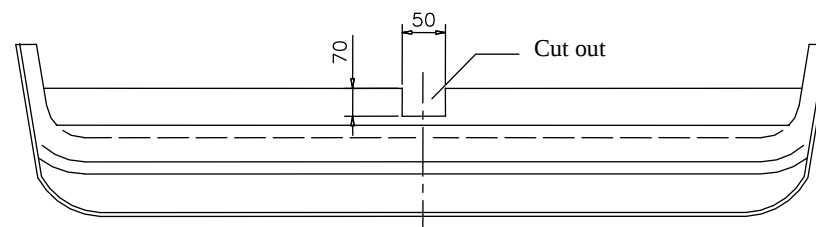

Fig. 2
3. On the left and right side put to chassis members brackets (pos. 4 and 5) in this way so elongated holes tally with plastic pin protruding from floor and next through holes (pos. A, B, C) drill holes $\varnothing 11\text{mm}$.
4. Bracket (pos. 5) screw through hole (pos. C) using washers (pos. 10) and bolts M10x30mm (pos.9).
5. Put main bar of towbar (pos. 1) to mounted brackets (pos. 4 and 5), through holes (pos. A and B), washers and plates (pos. 6) screw with chassis member using bolts M10x50mm (pos. 8) from towbar accessories.
6. Through holes (pos. D) drill holes $\varnothing 11\text{mm}$ and next screw with bolts M10x30mm – pos. 9 (use washers $\varnothing 35 \times \varnothing 12 \times 3\text{mm}$ – pos. 10).
7. Fix tow-ball (pos. 2) and socket plate (pos. 3) using bolts M12x75mm (pos. 7) from accessories.
9. In central part of the bumper cut out fragment 50x70mm as shown in the fig. 2.